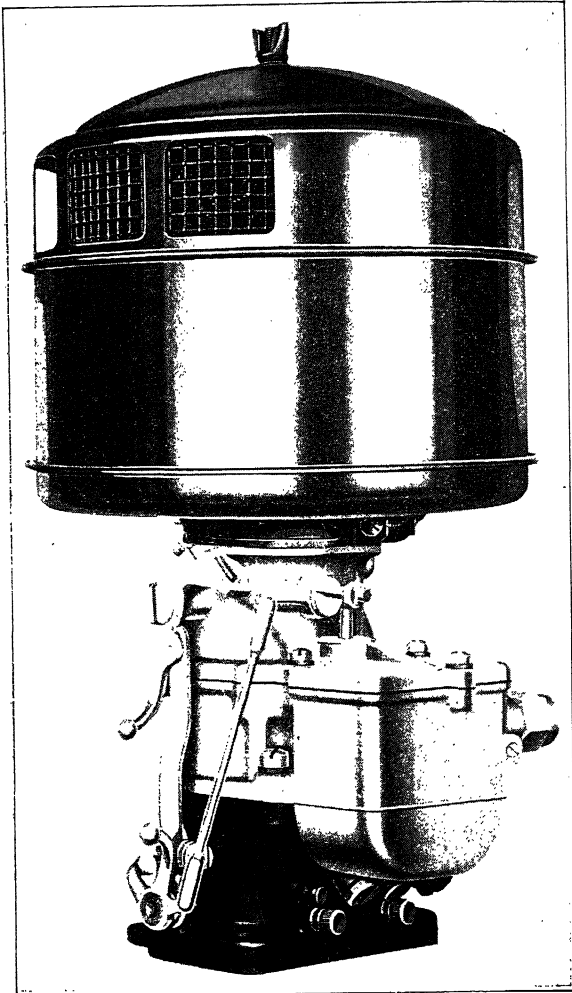

Fig. 117. Ford "V-8" Carburetor and Air Cleaner
Ford "V-8" Dual Manifold. The 1934 passenger cars were the first to be equipped with a dual down-draft carburetor, Fig. 117,
**Ford "V-8" Dual Carburetor.** The dual carburetor, Fig. 117, used on 1934 Ford "V-8" cars, uses one float chamber and float valve, one choke valve, and one accelerating pump. The discharge, however, from the accelerating pump is equally divided between the two carburetor barrels. To simplify the carburetor explanation, the one barrel of the carburetor only will be explained, as the operation of both is identical.